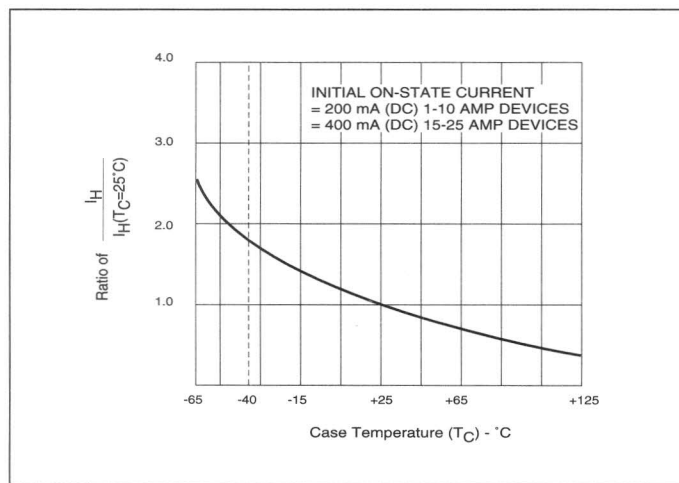

Figure 2.14 Normalized DC Holding Current vs Case Temperature
- See Figure 2.14 for I_H vs T_C .